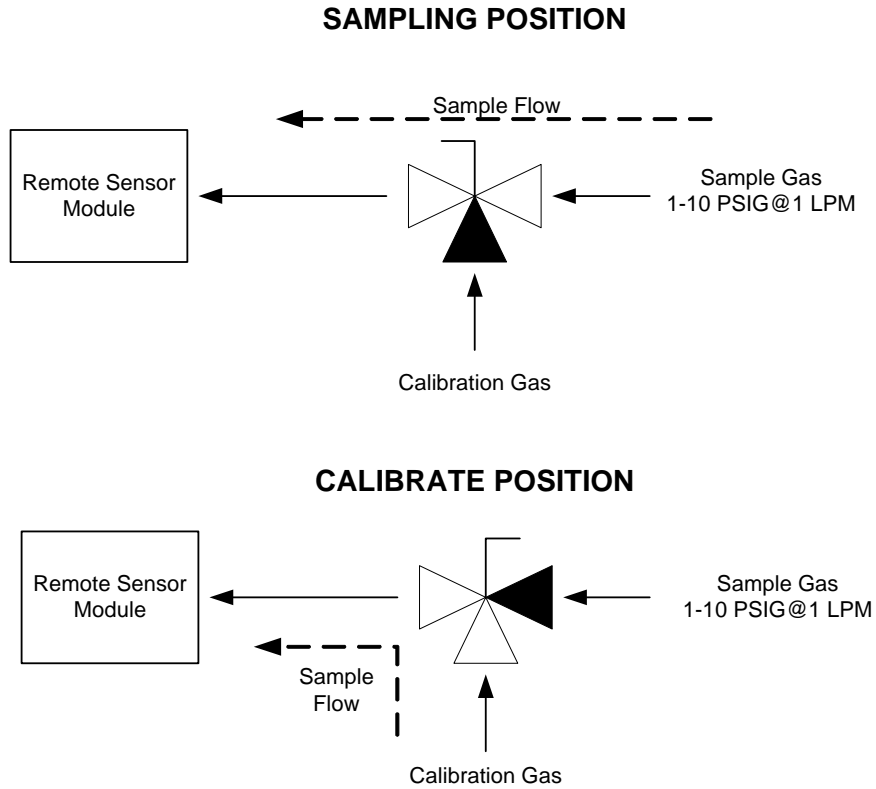

Figure 10 – Calibration gas fixture configuration (typical) – see calibration section (3.2.1) for calibration procedure details.
- Regulated the sample pressure as instructed in section 2.1.2.2 (Figure 10)?